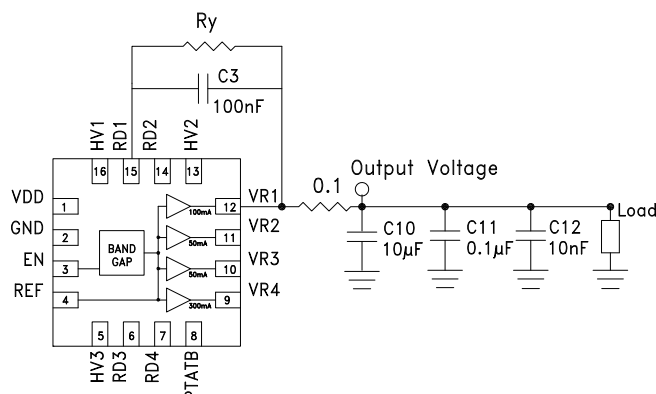

Figure 13. Recommended HMC1060LP3E configuration for supplying output voltage values less than default.[1]
The outputs of the HMC1060LP3E are configured to supply voltages less than the default values, down to 1.8 V minimum, by connecting a resistance (R_y in Figure 13) between pins VRx and RDx (where $x = 1, 2, 3, 4$). Figure 13 shows an example of configuring VR1 output. Other outputs are configured in exactly the same way (ie. R_y is added between VR2 & RD2, VR3 & RD3 and between VR4 & RD4).
2. To set VR1 = VR2 = VR3 = 1.8 V in with PTAT Mode disabled, external resistance Ry = 21 kΩ shown in Figure 13 is required.